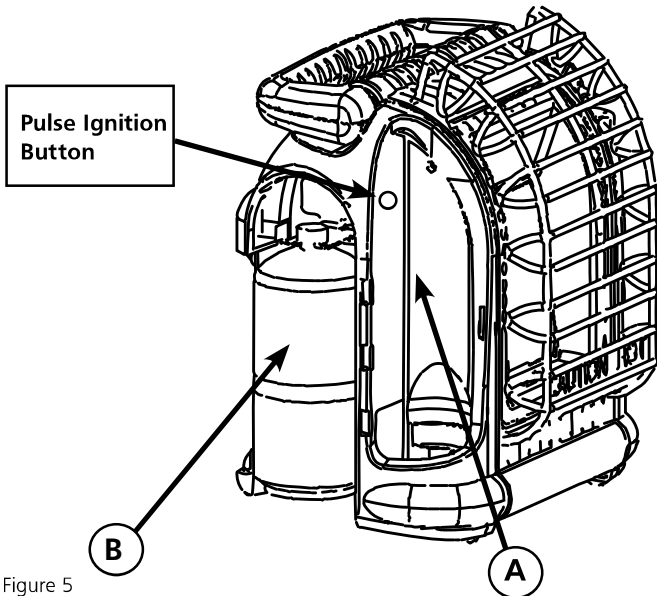

Figure 5
- 3 Remove (4) four screws that secure the rear cover to the Heater.
- 5 Remove (4) four burner retaining screws and fuel line from burner assembly. Remove burner assembly from back of housing.
- 7 Inspect and clean main burner orifice (threaded into orifice holder). Orifice holder is attached to the burner assembly venturi with (2) two screws.
- 8 Inspect and clean pilot (mounted to bracket) by using a vacuum or apply air pressure through the holes in the pilot indicated by the arrows in Figure 5.